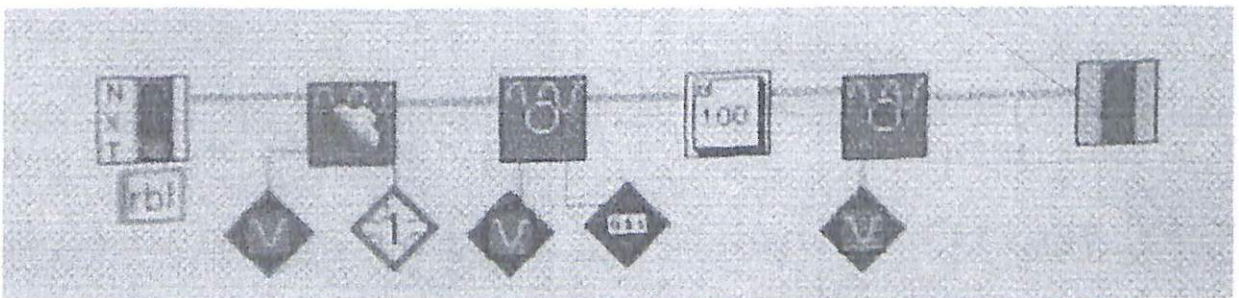

Figure 3.5.6 Robolab program
1. Using Mindstorms 2.0 or ROBOLAB Investigator, write a program to collect the NXT ultrasonic sensor data reading every 0.1s for 10s. See Figure 3.5.6